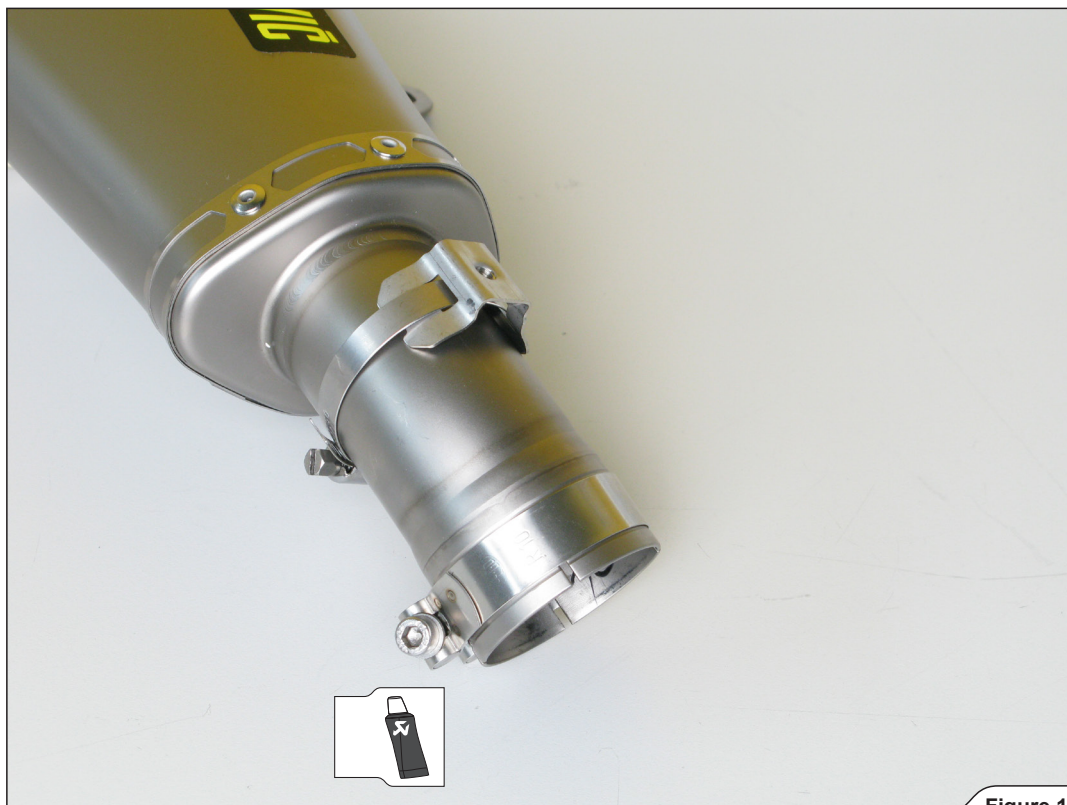

Figure 17
7. Install the metal clamp (R10) onto the muffler inlet bush and heat-shield bracket as shown (Figure 17).